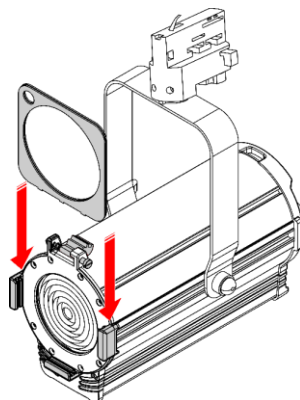

Fig. 17
- 03) Insert the color frame into the **color frame holders (06)** (see Fig. 17).